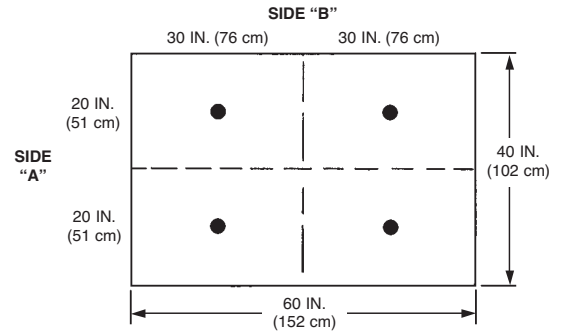

FIGURE 3
- ▶ Example: The duct to be protected has a Side "A" of 40 in. (101.6 cm) and a Side "B" of 60 in. (152.4 cm). Referring to the design chart, this duct requires 4 nozzles. One half of 4 = 2. Therefore, 2 nozzles must be equally positioned in each of the two duct areas. See Figure 3.